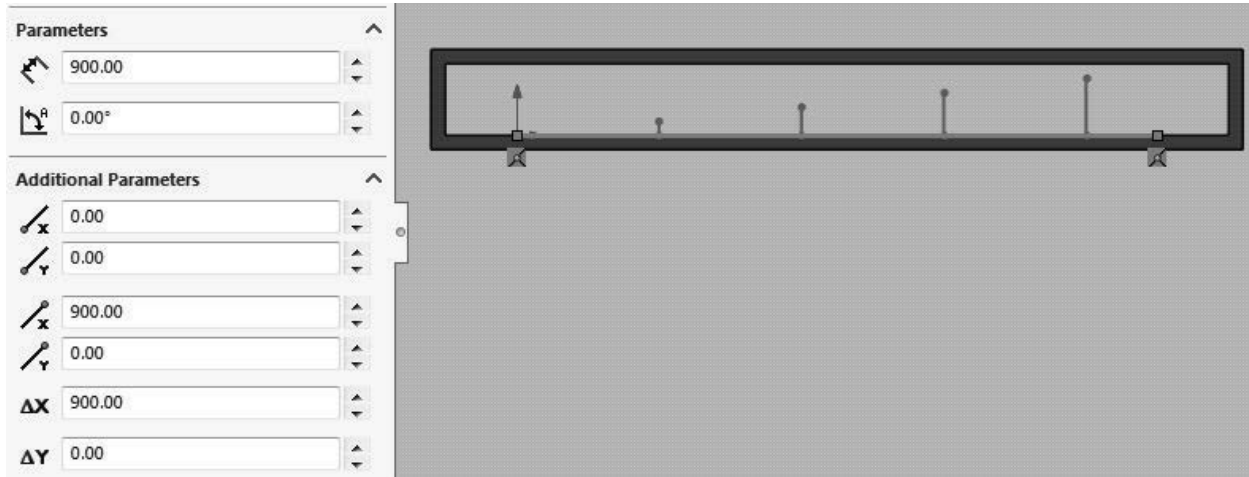

Figure 2.9 Sketch of a line in the X-direction
9. Click on the **Rebuild** symbol  in the SOLIDWORKS menu. Repeat step 6 and draw a horizontal line in the X-direction starting at the origin of the lower inner surface of the sketch. Set the **Parameters** and **Additional Parameters** to the values shown in figure 2.9 and close the **Line Properties** dialog and the **Insert Line** dialog. Rename the sketch in the **FeatureManager design tree** and call it **x = 0 – 0.9 m**. Click on the **Rebuild** symbol.